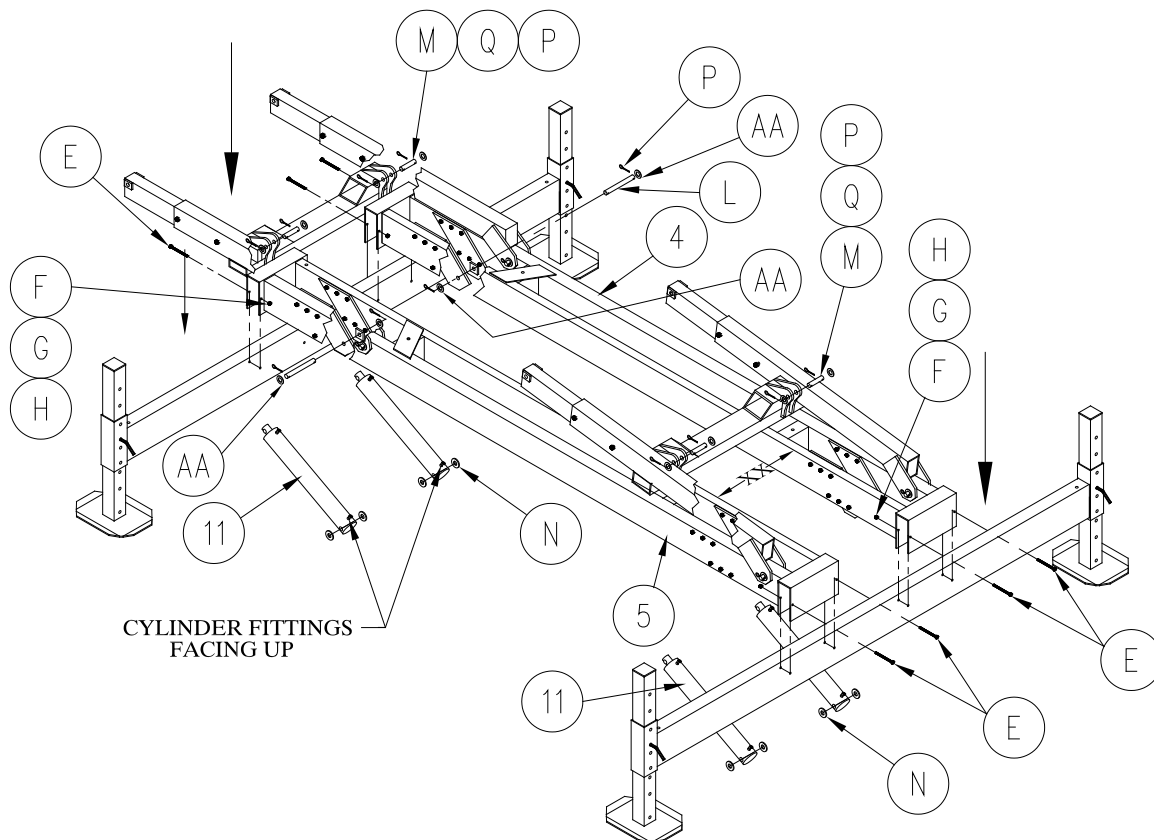

Figure 3-4.
1. **Refer to Figure 3-4.** Install the hydraulic cylinders (11) onto the main frame. Place the cylinders in position so that the hydraulic fittings are facing upward. Place the cylinders in position and insert pin (L) through only one cylinder support plate. Install flat washer (N) between the cylinder and the cylinder support plate. Insert clevis pin through the cylinder body. Insert another flat washer (N) between the cylinder and the other support plate.
1. Refer to Figure 3-4. Install left side main frame (4) and right side main frame (5) onto each leg assembly. Set left and right frames to a dimension of 37-1/2" inside frame as shown (XX) on figure 3-4.